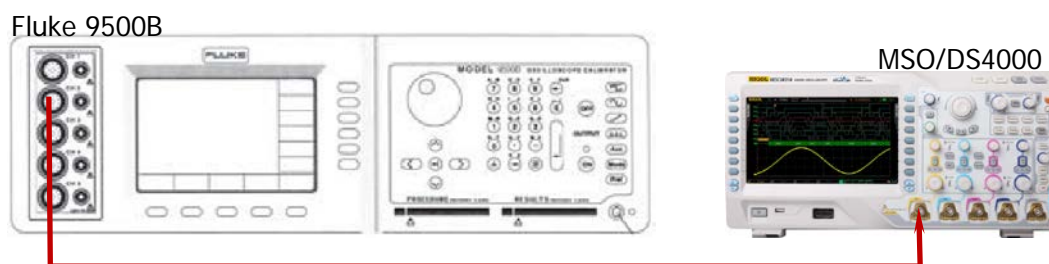

Figure 2-4 Bandwidth Limit Test Connection Diagram
- 1) Connect the active signal terminal of Fluke 9500B to CH1 of the oscilloscope, as shown in Figure 2-4.